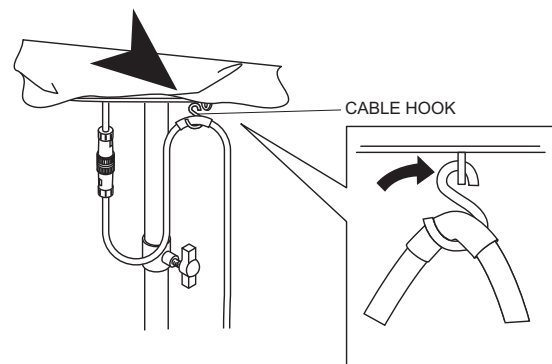

Figure 19. Securing Cable with Hook
6. Secure the power cable by hooking it to the eyelet on the bottom of the balloon as shown in Figure 19.